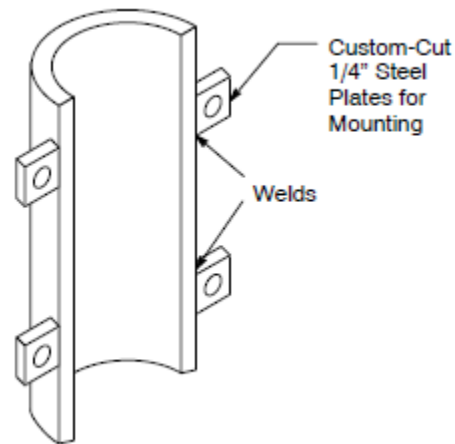

Figure 5. Riser Protection Method
- See Figures 5 and 6, and Table 4, for installation instructions.